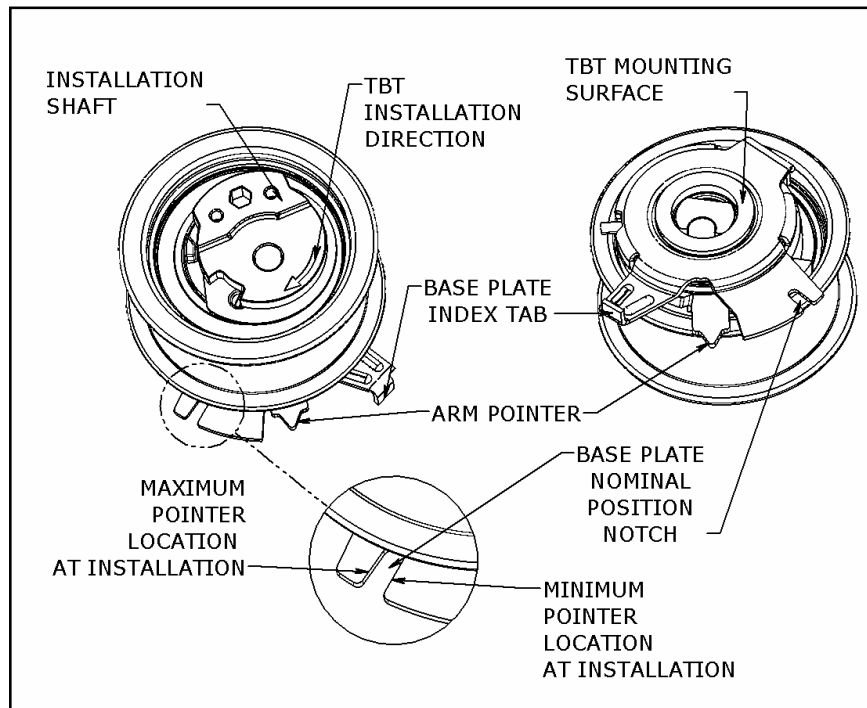

Figure 6: Timing Belt Tensioner
5. Install the new tensioner (Figure 6) on the engine mounting stud ensuring that the anti-rotation index tab of the base plate is engaged with the anti-rotation slot on the plastic cover of the cylinder block.
If the arm pointer is aligned within the **Minimum & Maximum** range of the Nominal Position Notch in the front plate, (Figures 6 and 9). The installation is complete.
The timing belt tensioner re-adjustment is required if the arm pointer does not align within the **Minimum & Maximum** range of the Nominal Position Notch in the front plate (Figure 6).
15. Prevent the rotation of the flanged mounting nut with the 13mm Wrench and rotate the Installation Shaft with the Installation tool, until the Arm Pointer moves within the **Minimum & Maximum** range of the Nominal Position Notch in the front plate, (Figures 6 and 9.)